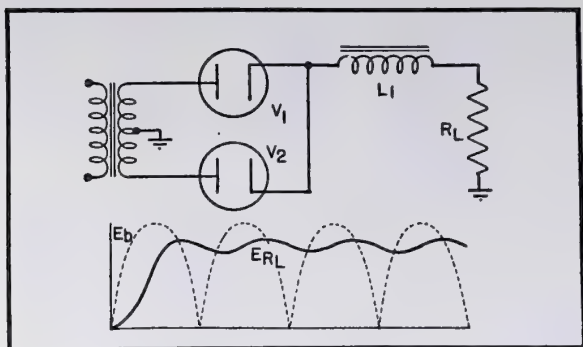

Fig. 2-4. Choke input system, showing higher current output.
2. Higher current output. This is due to the lower peak current and higher average current of the rectifier, as illustrated in the waveform in Fig. 2-4.